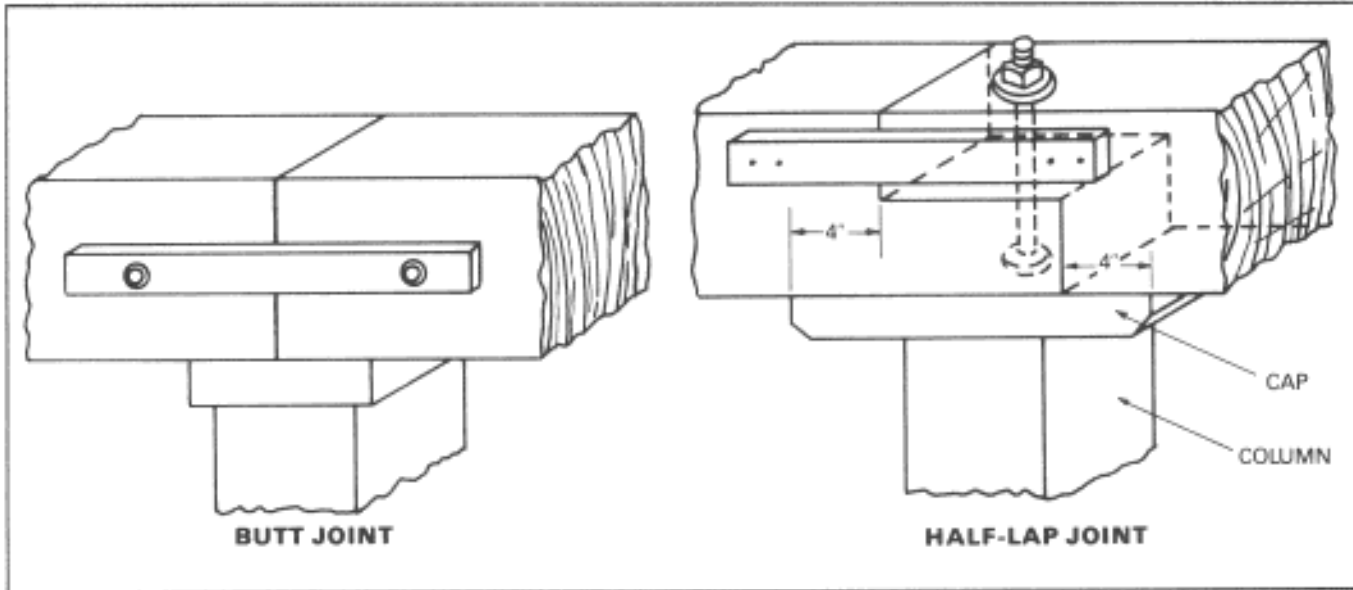

Figure 6-14. Butt and half-lap joints
To splice solid beams, use half-lap joints or butt joints (Figure 6-14.) See Splices on page 6-6.
Half-Lap. Sometimes a half-lap joint is used to join solid beams (Figure 6-14). This is done by performing the following steps:
- Step 2.* Lay out the lines for the half-lap joint as shown in Figure 6-14.
Butt Joints. When a strapped *butt joint* is used to join solid beams (Figure 6-14, page 6-13), the ends of the beams should be cut square. The straps, which are generally 18 inches long, are bolted to each side of the beams.